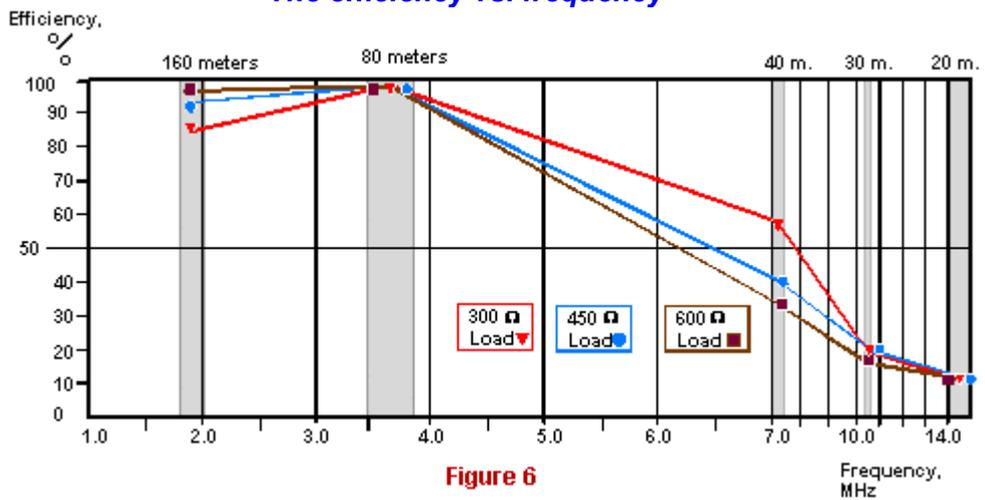

Figure 6
- The efficiency vs. frequency (Fig. 6).